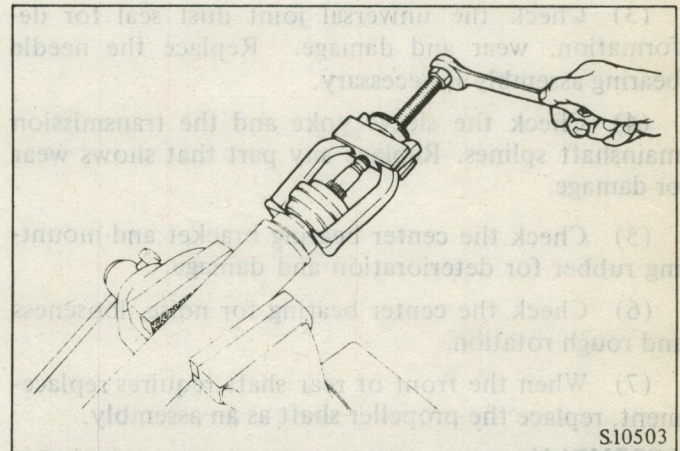

Fig. 3 Removing the Center Bearing
- (1) Take out the propeller shaft assembly and disconnect center universal joint. Take out center yoke attaching nut on center yoke.
- (2) Remove the center yoke. Remove the center bearing bracket from the bearing by prying up.
- (3) Using a puller, remove the bearing as shown in Figure 3.